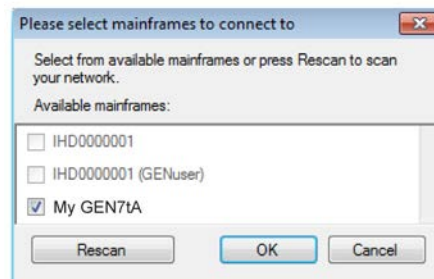

Figure D.2: Mainframe selection dialog
- 1a Press the **Rescan** button on the dialog above (see Figure D.2) to initiate a new network search for the mainframe. Typically, the mainframe should appear within a few seconds.